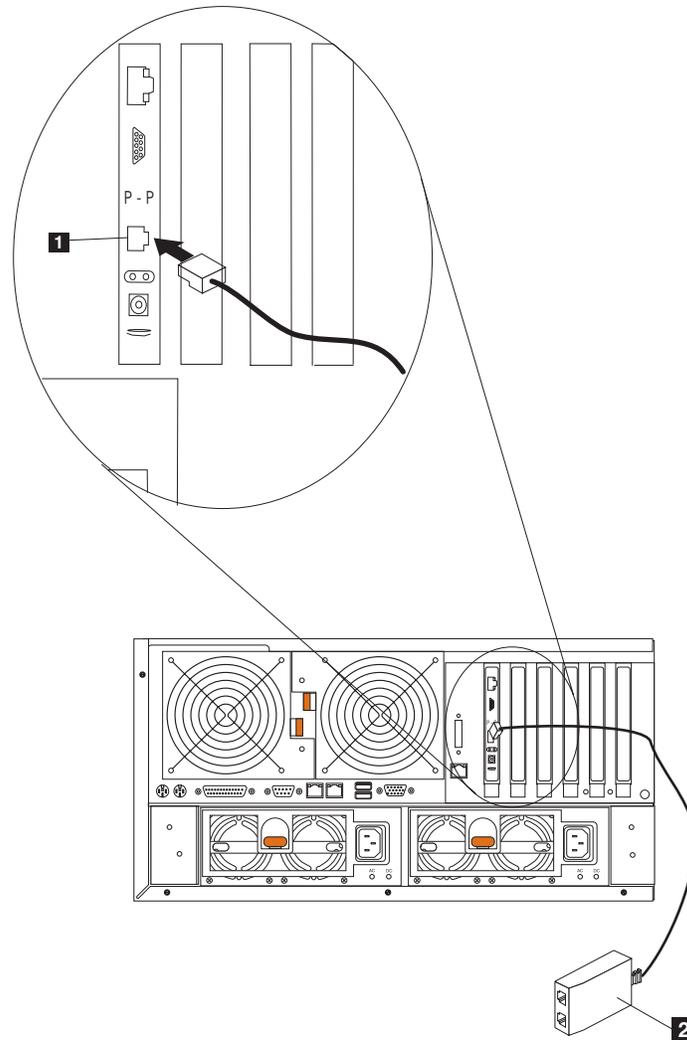

Figure 64. Connecting the ASM interconnect module to the Remote Supervisor Adapter
1. Connect the ASM Interconnect module **2** to the Remote Supervisor Adapter ASM Interconnect port **1**. This port is labeled *P - P* (for *peer-to-peer*) on the back panel of the adapter. Figure 64 shows the Remote Supervisor Adapter installed in the NAS 300G engine.